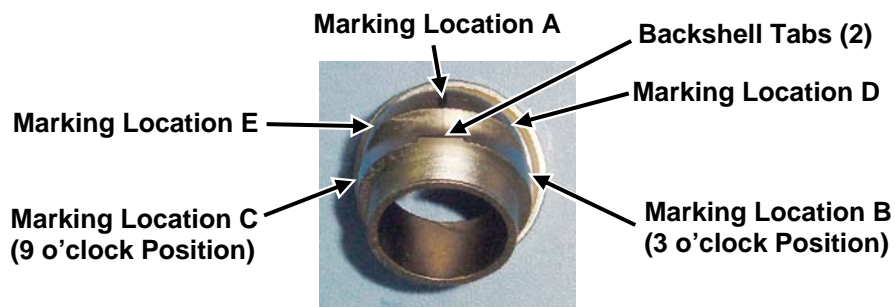

Figure 2. Backshell Tabs and Marking Locations
2. Mark backshell on upper body with a removable-ink pen, using the parting line as reference for mark A as shown in Figure 2.
3. Mark backshell at D and C reference marks in Figure 2, using a marking pen.
4. Mark backshell at approximately half way between mark A and B, or mark A and C, and label as mark E or mark D, as shown in Figure 2, using a marking pen.
2. Locate the orientation markings on the backshell previously applied. See Figures 2, 3, 9 and 10.
3. Match the desired orientation markings on the backshell with the marks on the strain relief in one of the following steps. See Table 2 and Figures 2, 3, 9 and 10.